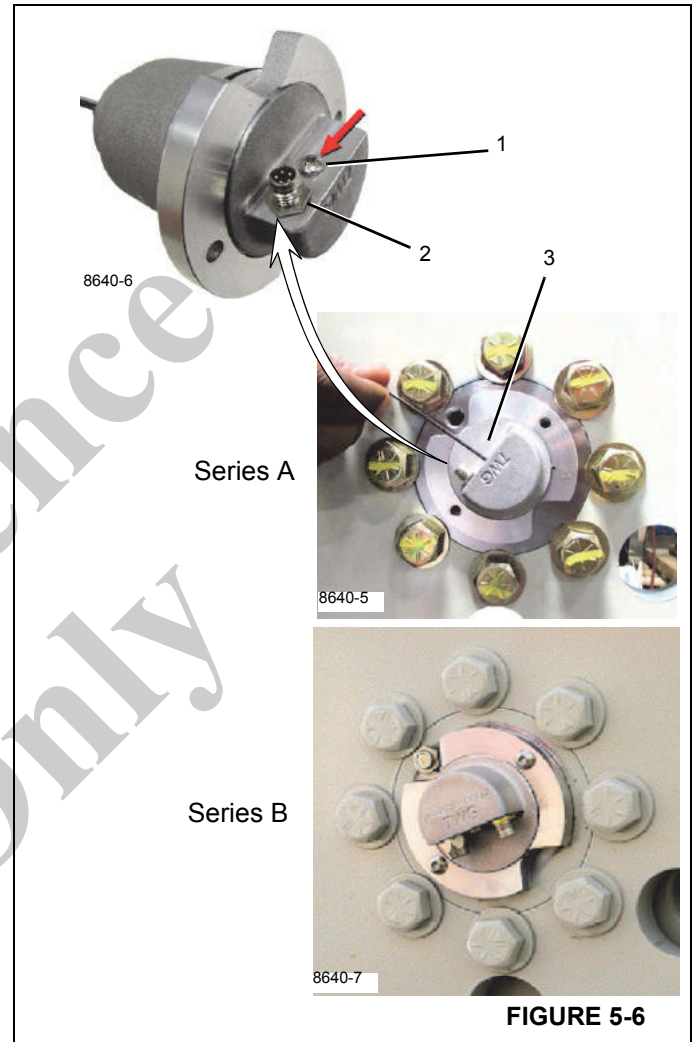

FIGURE 5-6
2. Remove power from the MWI by disconnecting the DRI cable (2, Figure 5-6).
3. Remove the sealed Hoist Monitoring System (HMS) programming button cover screw (1, Figure 5-6) on the DRI.
4. Push and gently hold the programming button (3, Figure 5-6) and return power to the MWI by reconnecting the DRI cable.
**NOTE:** Holding the button for longer than 15 seconds puts the HMS into Shipping Mode for Series A units. (See Figure 5-6) See Shipping Mode for more information.
**NOTE:** Failure to replace the programming screw (1, Figure 5-6) could effect the operation of the MWI.
3. Remove the programming button cover screw (1, Figure 5-6).